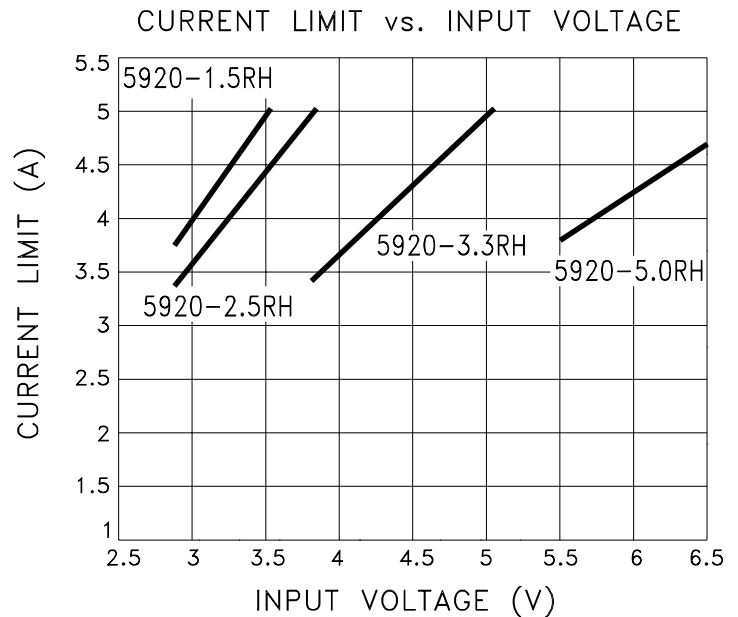

FIGURE 1
- ⑦ Output current limit is dependent upon the values of  $V_{IN}$  and  $V_{OUT}$ . See Figure 1 and typical performance curves.
- ⑧ Continuous operation at or above absolute maximum ratings may adversely effect the device performance and/or life cycle.
- ⑨  $V_{IN}$  shall be as specified or  $V_{IN \text{ min.}}$ , whichever is greater.
- ⑩ Not applicable to versions where  $V_{IN} = V_{IN \text{ Min.}}$ .
- ⑪ Consult factory for post radiation limits.
The MSK 5920RH current limit function is directly affected by the input and output voltages. Figure 1 illustrates the relationship between VIN and ICL for various output voltages. It is very important for the user to consult the SOA curve when using input voltages which result in current limit conditions beyond 4.5 Amps. When using input voltages which result in current limit above 4.5 Amps, the user must maintain output current within the SOA curve to avoid damage to the device. Note that 5 Amp maximum is due to current carrying capability of the internal wirebonds.